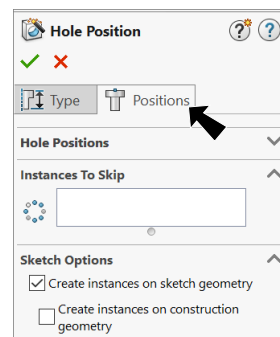

Fig. 19
Step 4. Click **Positions** tab  at top of Property Manager, Fig. 19.